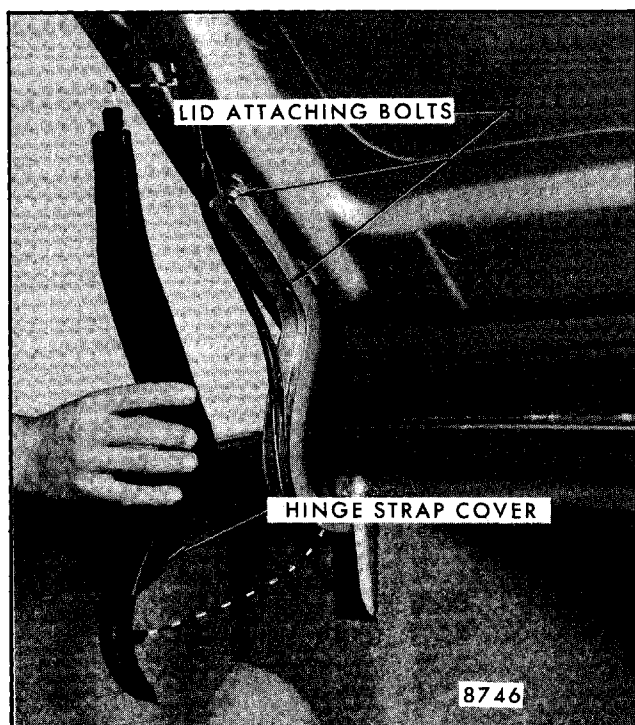

Fig. 7-3 - Rear Compartment Lid Hinge Strap Cover K Style
1. Open lid and place protective covering along edges of rear compartment opening to prevent damage to painted surfaces. On K styles remove hinge strap cover (Fig. 7-3).